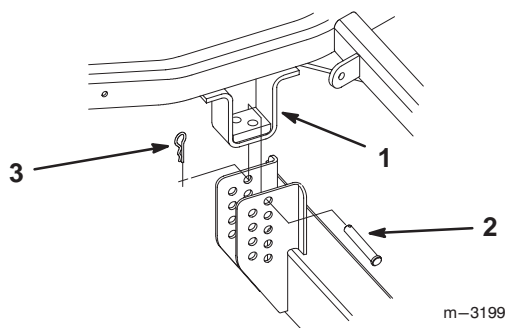

Figure 2
1. Remove hairpin cotters and clevis pins from mower hanger brackets and remove mower from carrier frame (Fig. 2).